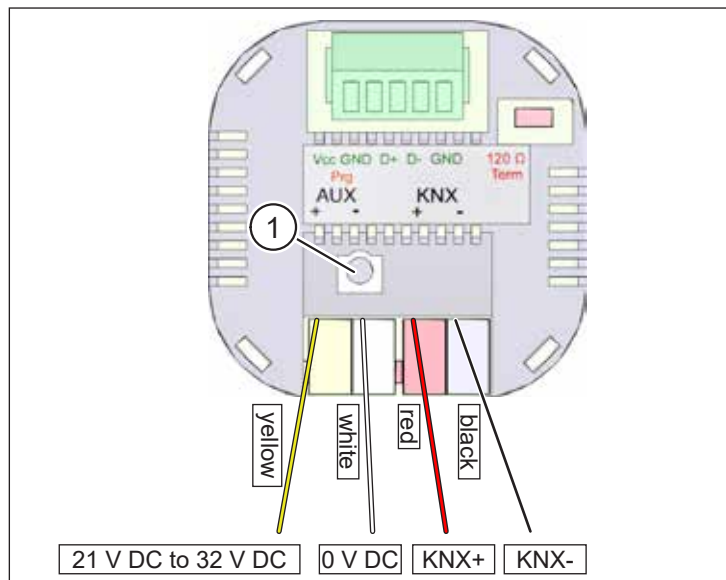

Fig. 5: Wiring diagram: gateway – KNX system
- ▶ Wire the gateway to the to the KNX system as shown in the wiring diagram (see Fig. 5).
The programming button (item 1 in Fig. 5) is on the back of the gateway.